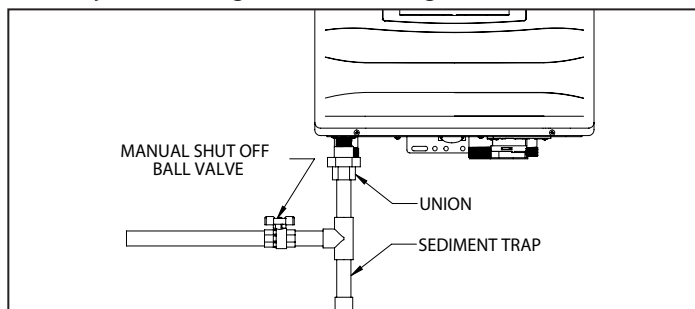

Figure 39 - Gas Line with Shut-Off and Sediment Trap Detail
- The National Fuel Gas Code (NFPA 54) requires that a sediment trap (drip leg) be installed in the gas line on appliances not so equipped. The drip leg must be accessible, a minimum of 3" in length, and not subject to freezing conditions. See Figure 39.
- A manual gas shut-off valve should be installed in the gas supply line close to the water heater. See Figure 39 for detail.